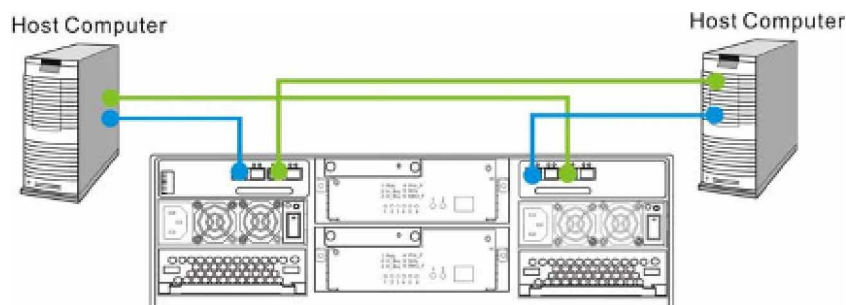

Figure 4-5: Direct Dual Host Connection
1. Connect the left FC ports from each host connection modules on the FALCON III, to a dual-ported host computer. (See **Figure 4-5**.) When one controller or loop fails, the alternative controller or loop will take over the job.